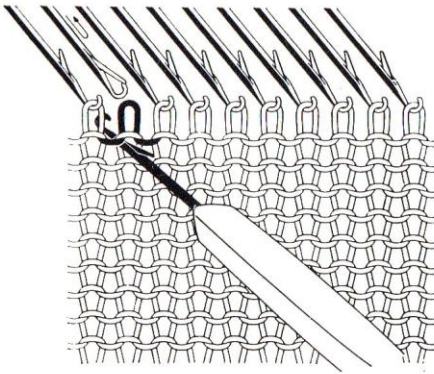

Fig. 31
- (1) Knit two row in Plain stitch. As shown in Fig. 31, insert the latch tool second underneath stitch. Remove the stitch from the needle and shake the latch tool with the stitch on the stem of the latch tool and ladder one stitch.